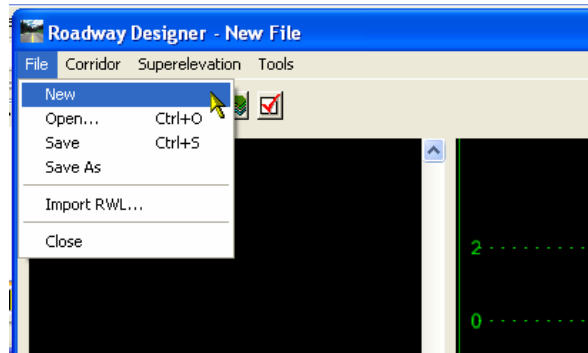

Figure 1-9 InRoads Roadway Designer Creating a New File
- K. Create and Save the .ird (Roadway Designer) file. Click to **Modeler > Roadway Designer...** on the InRoads Menu Bar. In the roadway designer choose **File > New** as shown in Figure 1-9 and input **Roadway_Designer** in the File Name field. Click **Save**, **Cancel** and Close the Roadway Designer.